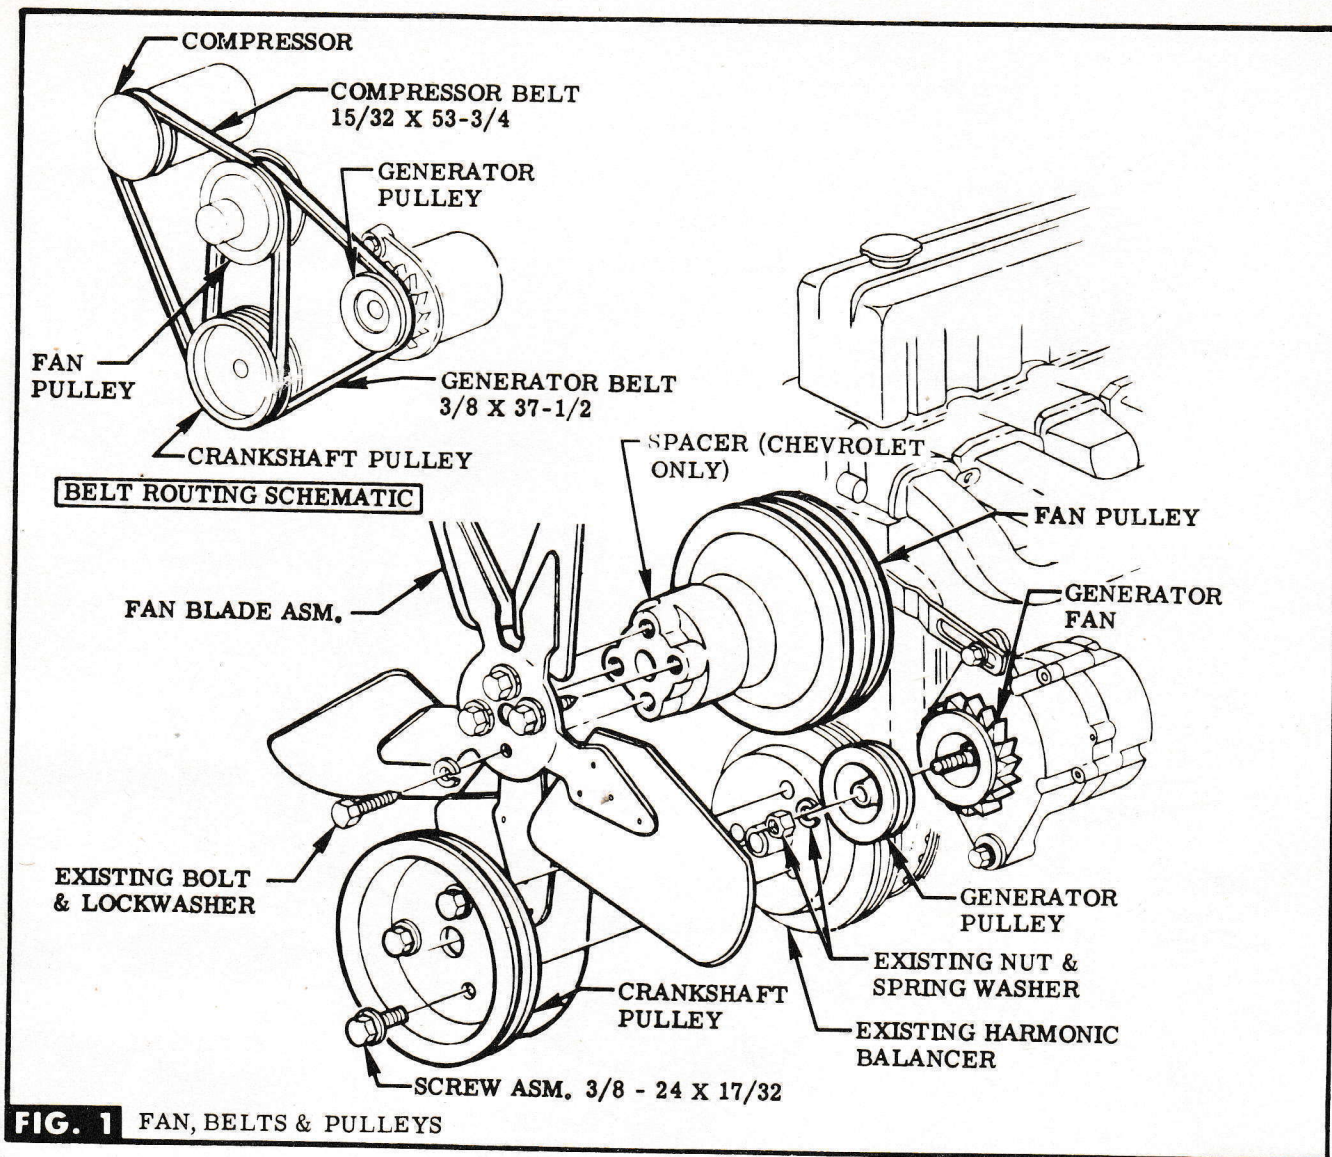

FIG. 1 FAN, BELTS & PULLEYS
STEP 2 INSTALL CRANKSHAFT PULLEY (PROCURED FROM DEALER'S STOCK) TO EXISTING HARMONIC BALANCER WITH PROVIDED SCREWS. SEE FIG. 1.
(PULLEY WITH SHORTEST HUB) WITH RETAINED ATTACHING PARTS. SEE FIG. 1. **NOTE** Discard fan pulley with longest hub.
STEP 5 INSTALL GENERATOR BELT (PROCURED FROM DEALER'S STOCK) ON REAR PULLEYS. INSTALL PROVIDED COMPRESSOR BELT ON FRONT PULLEYS. SEE SCHEMATIC IN FIG. 1.
NOTE Adjust compressor on support until belt is tight, then secure nuts at pivot bolts & clamping bolt. See Fig. 1, Sheet 2.
STEP 2 INSTALL PROVIDED CRANKSHAFT PULLEY TO EXISTING HARMONIC BALANCER WITH PROVIDED SCREWS. SEE FIG. 1.
STEP 3 (EXCEPT CHEVELLE) REMOVE & DISCARD EXISTING FAN, SPACER & FAN PULLEY, BUT RETAIN ATTACHING PARTS. INSTALL PROVIDED FAN & FAN PULLEY (FAN PULLEY WITH SHORTEST HUB) & SPACER (CHEVROLET) WITH RETAINED ATTACHING PARTS. SEE FIG. 1.
TAIN ATTACHING PARTS. INSTALL PROVIDED FAN & FAN PULLEY (FAN PULLEY WITH LONGEST HUB) WITH RETAINED ATTACHING PARTS. SEE FIG. 1. **NOTE** Discard Fan Pulley with shortest hub.
STEP 5 (EXCEPT CHEVY) REMOVE & DISCARD EXISTING GENERATOR FAN PULLEY ASM., BUT RETAIN ATTACHING PARTS. INSTALL PROVIDED GENERATOR PULLEY & PULLEY FAN WITH RETAINED ATTACHING PARTS. SEE FIG. 1.
STEP 6 INSTALL PROVIDED GENERATOR BELT ON REAR PULLEYS. INSTALL PROVIDED COMPRESSOR BELT ON FORWARD PULLEYS. SEE SCHEMATIC IN FIG. 1. **NOTE** Adjust compressor on support until belt is tight, then secure nuts at pivot bolts & clamping bolt. SEE FIG. 1, SHEET 2.